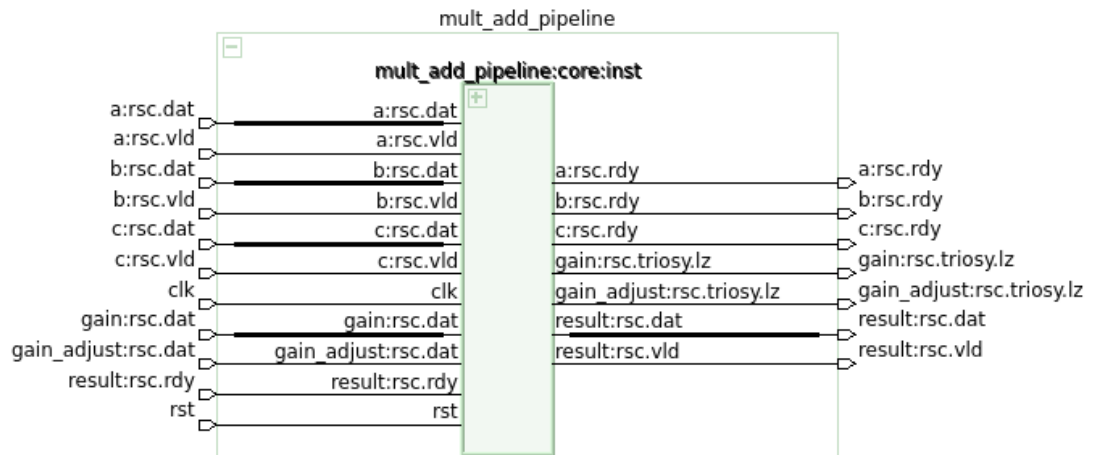

Figure 4. Top RTL Schematic view.
27. Take a look at the top view of the *mult_add_pipeline* top level interface (Fig. 4).